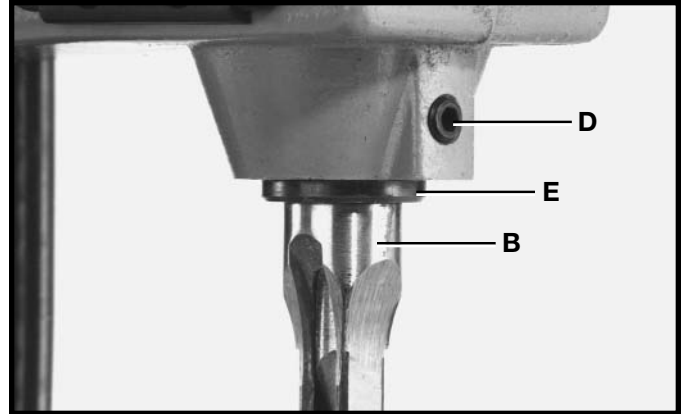

Fig. 24
5. Loosen set screw (D) Fig. 24, and push chisel (B) up against bottom of bushing (E), as shown, and tighten set screw (D). This should provide the proper distance between the cutting lips of the bit and the points of the chisel.